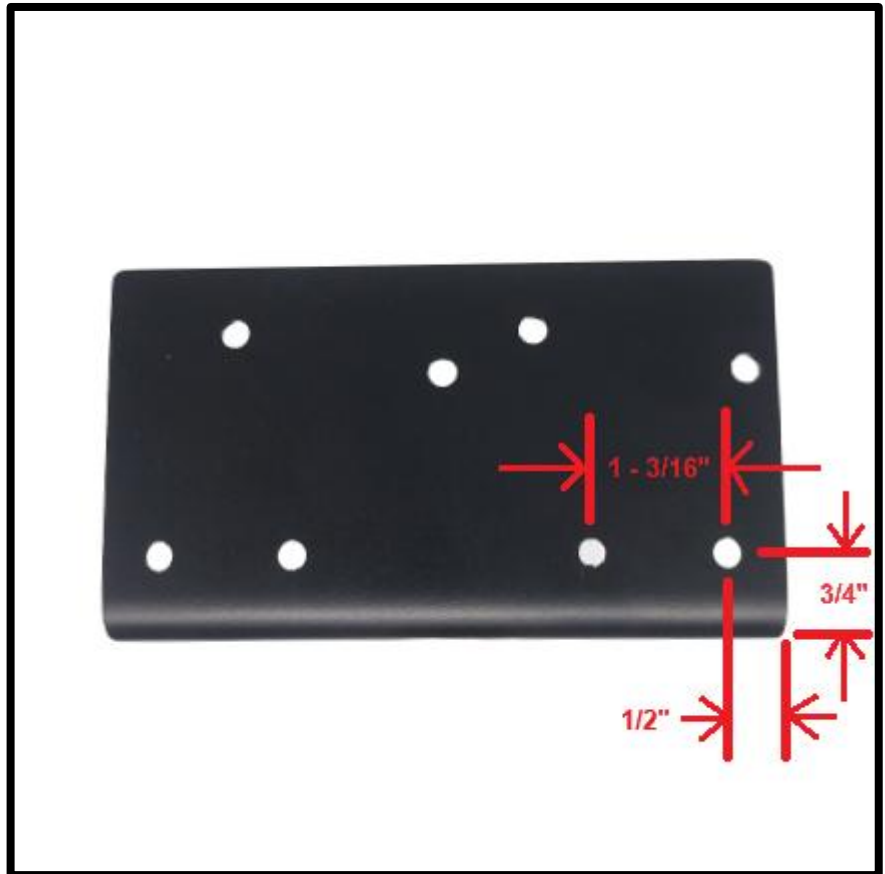

Figure 2
- 2-A) Inspect the ARB mounting bracket for two (2) 1/4" holes as shown below. If not present, you will have to drill two (2) 1/4" holes at the locations dimensioned in **Figure 2**. If holes are already present, proceed to **Step 2-B**.